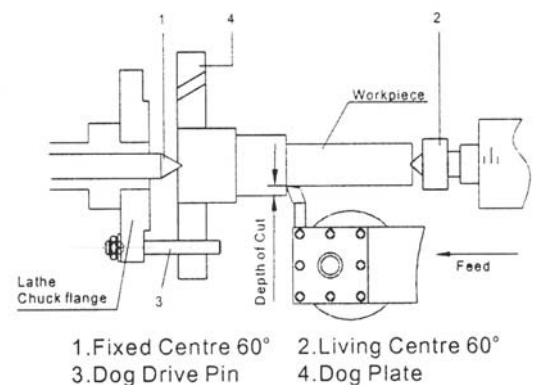

Fig.12
15.9 Turning between centers (Fig.12)